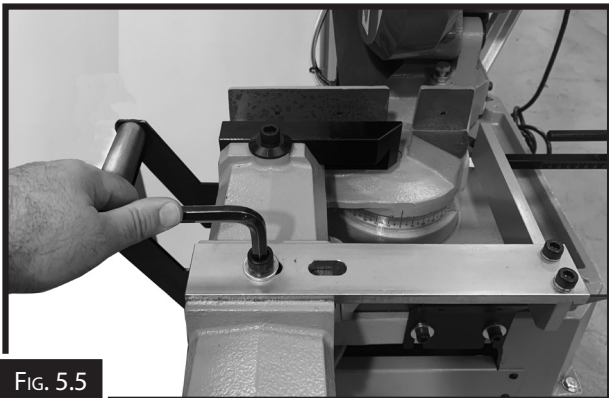

FIG. 5.5
6. Adjust the vice jaw outrigger to support the cut off piece. In some cases the outrigger may need to be moved to the other slotted hole. (Fig. 5.5)